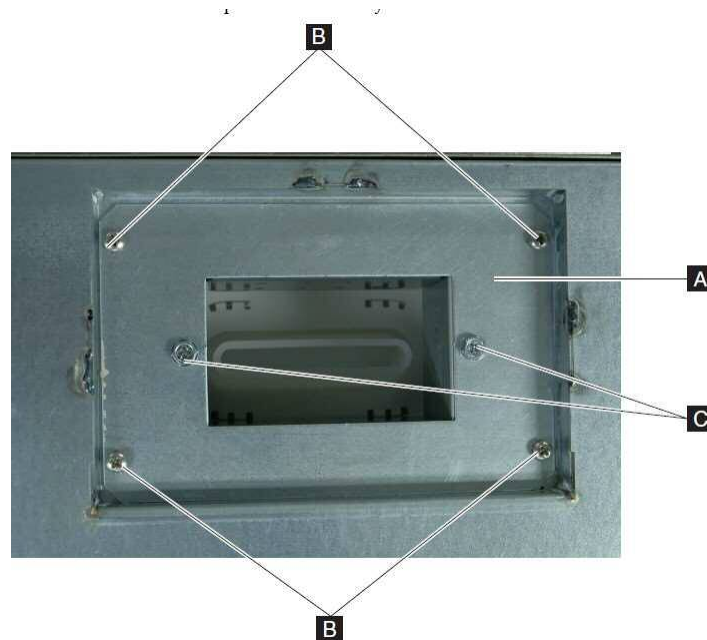

Figure 2: Coupon box view from below
- Remove the 4 (2.5MM hex head) black corner screws (**B**) in the mounting plate to drop the assembly from the cabinet as showing in Figure 2. You **DO NOT** need to remove the 2 screws (**C**) mounting the coupon sensor to the mounting plate. Confirm hex key size to prevent stripping of fastener.